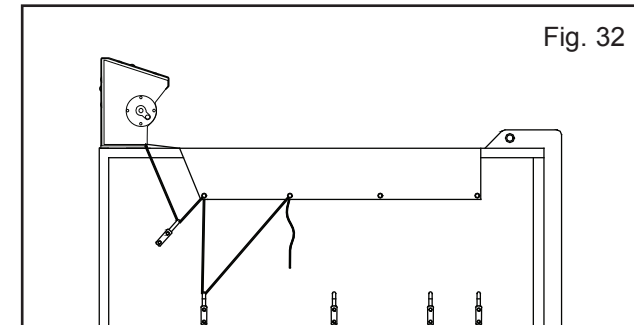

Fig. 32
- Position 2nd hook straight down from 1st grommet. This hook should be reached from ground (Fig. 32).